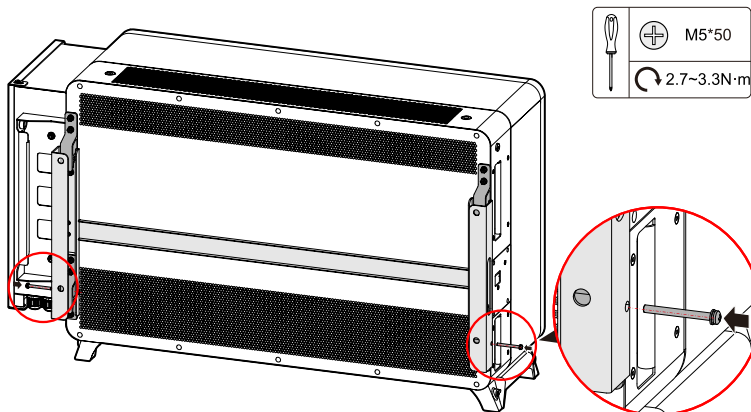

Figure3-17 Fix inverter
Step 6 Fix inverter to the installation holder through the equipped M5\*50 screws, as shown in Figure3-17.